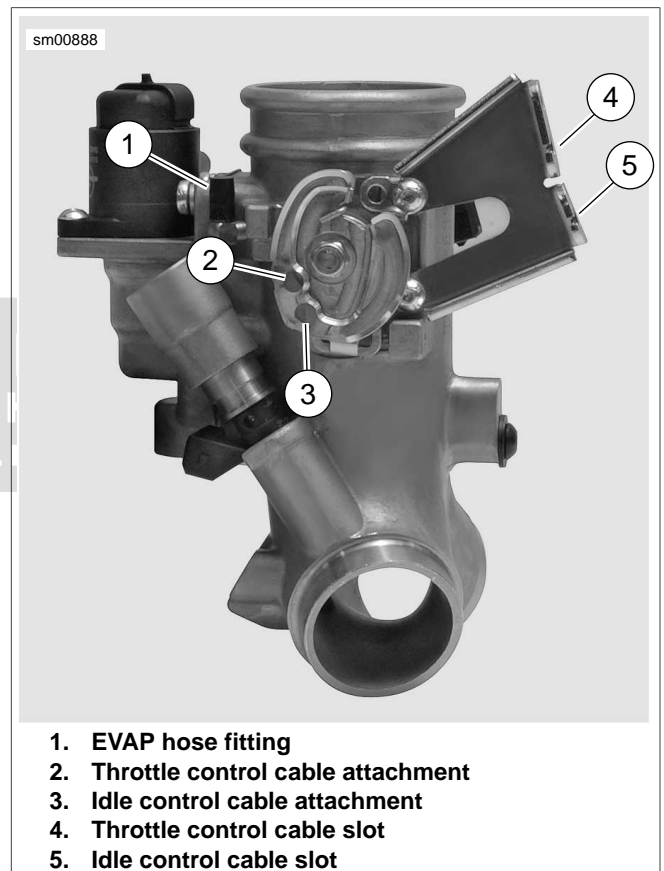

Figure 4-39. Throttle Cable Bracket
5. See Figure 4-39. On California models, pull EVAP hose from fitting (1).